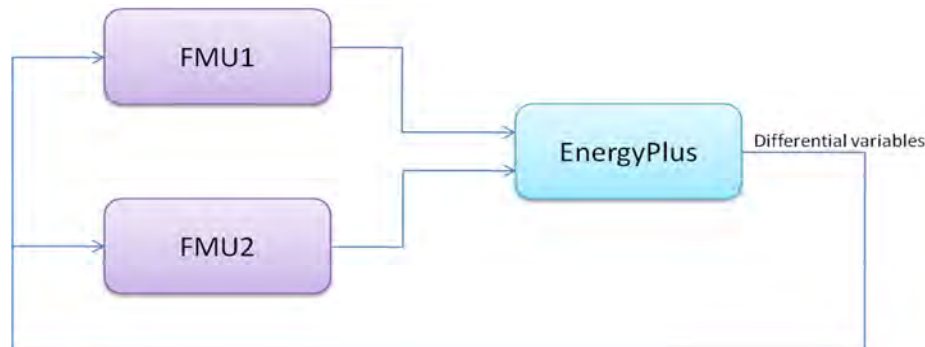

Figure 8: System with two FMUs linked to EnergyPlus.
- Two or multiple FMUs are linked together only through differential variables in EnergyPlus (see Figure 8 for two FMUs).